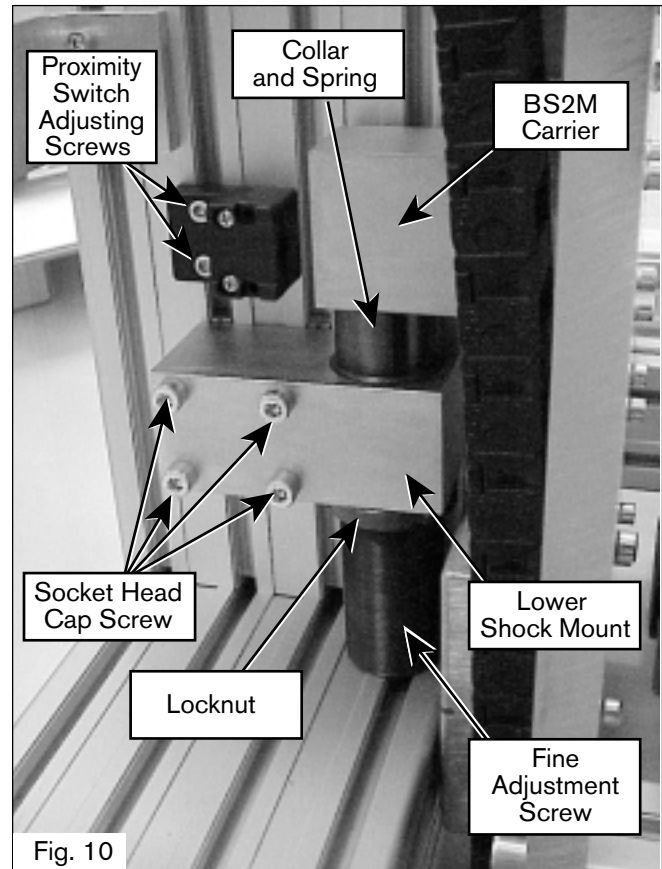

Fig. 10
3. Use the same procedure for the upper check valve air connections (Fig. 10).
Refer to Figure 10.
1. For fine position adjustment, first lower the transverse conveyor so that the carriage plate is resting on the lower stop. Then loosen the locknut on the hard stop of the lower shock mount (Figure 10).